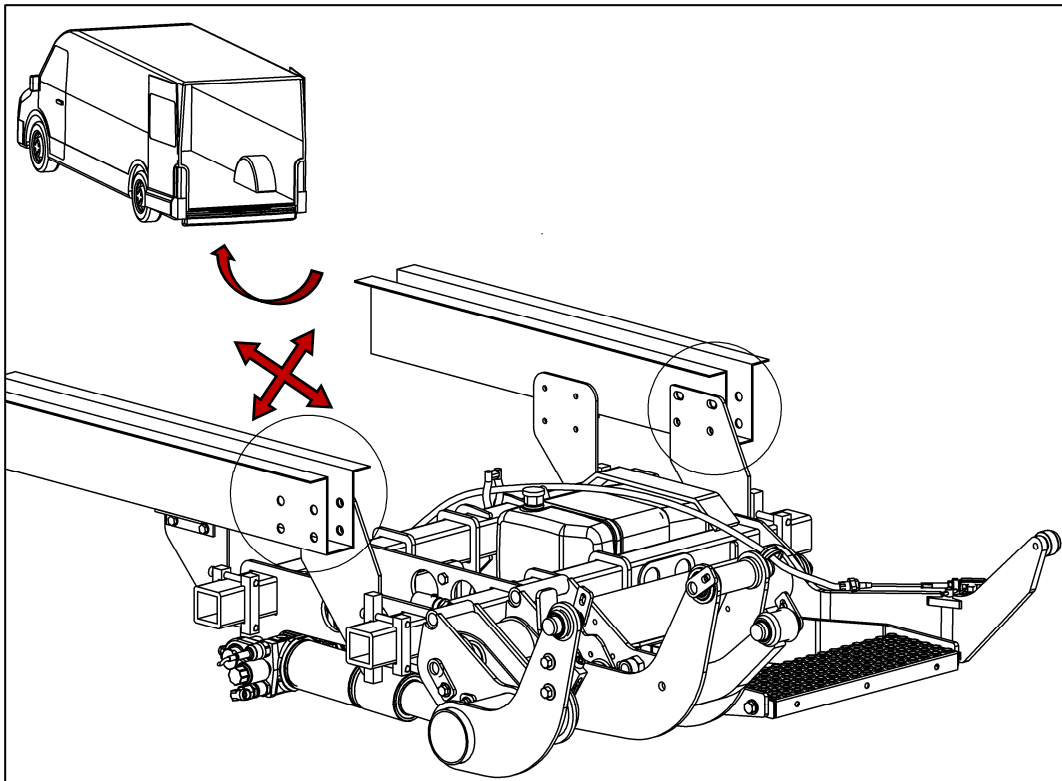

Fig. 26
- Line up the installation adapters on the lifting gear with the manufacturer's holes in the vehicle chassis (see Fig. 26).